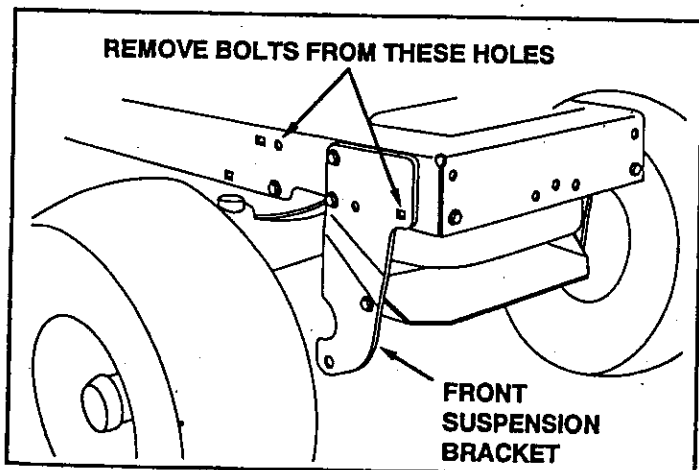

FIGURE 1
IF YOUR TRACTOR HAS FRONT SUSPENSION BRACKETS LIKE FIGURE 1
- Remove two bolts from each side of the tractor frame as shown in figure 1.